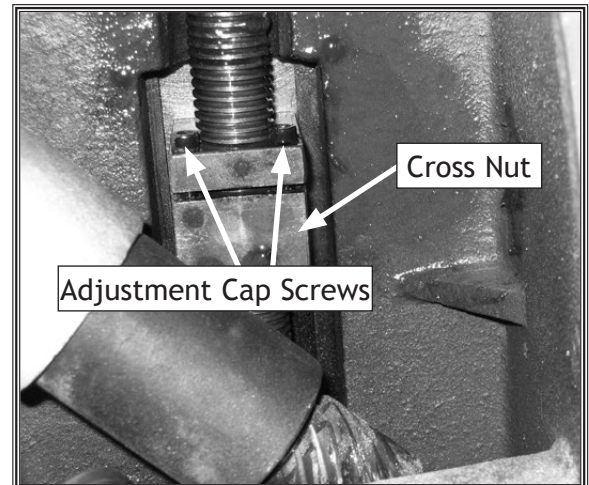

Figure 33. Cross nut.
1. Slightly tighten the two cap screws on the cross nut (see **Figure 33**). DO NOT overtighten.